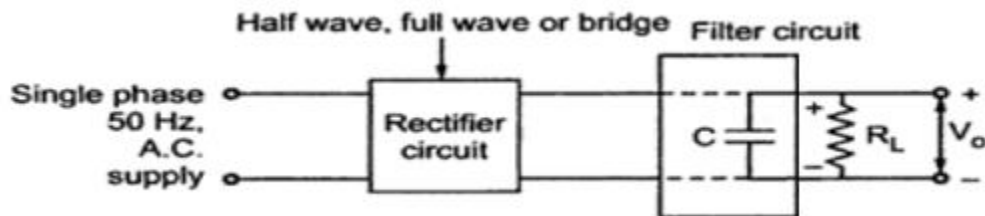

Fig. 1.35 Block Schematic of capacitor input filter
- The block schematic of capacitor input filter is shown in the Fig. 1.35.